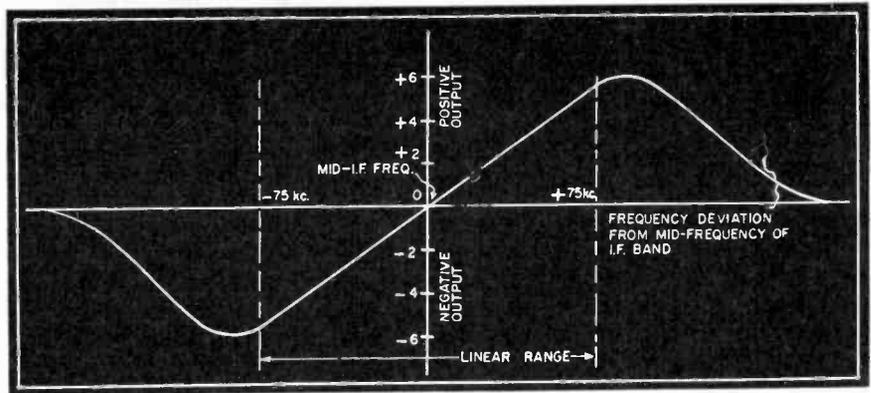

Fig. 2 Discriminator output plotted against variation of the input frequency. Zero on the graph corresponds to the intermediate frequency of the receiver.
(2) *Adjustment of the Discriminator.* With the DC (20,000-ohm-per-volt or electronic) voltmeter connected across the discriminator output, and with the 10-megacycle signal generator connected to the grid of the limiter through a .0001 ufd condenser, the discriminator can be adjusted to give the proper amplitude versus frequency characteristic. This adjustment consist of tuning the secondary of the transformer so that the discriminator gives zero output at the IF mid-frequency, and symmetrical positive and negative DC output for equal frequency deviations to either side of the mid-frequency. Of course, the signal generator must be accurately calibrated both as to frequency and amplitude, since it is always necessary to feed a constant amplitude signal to the discriminator. The actual measurement is made in DC volts of discriminator output versus frequency of the generator, where the signal is kept at a constant amplitude. The result should be similar to the curve of Fig. 2. The linear portion of the curve should extend 75 kilocycles on either side of the IF mid-frequency. A detailed description of test procedure for both discriminator and limiter will be found in a later section. At this point, only the general nature of the required tests and the necessary test equipment is being described.
One of the most useful of all devices is the frequency swept signal generator. These are made by several manufacturers and operate at a variety of frequencies. In some of these units, a motor driven condenser across the main tuning condenser rotates, thereby sweeping the frequency of a signal generator about some center frequency at a 60 cps rate. Usually, the maximum frequency deviation is adjustable, as well as the mid-frequency and the attenuator setting. Such a device is always used in conjunction with an oscilloscope and can be used to line up quickly and accurately the IF amplifier, limiter or discriminator stages. The correct tuning of the discriminator is accomplished by connecting the oscilloscope to the discriminator output, and the frequency swept oscillator to the grid of the limiter. With the mid-frequency and both extremities accurately adjusted, the discriminator output will respond at a 60 cps rate to the frequency deviations of the oscillator. The overall response is immediately presented on the oscilloscope screen and all necessary adjustments may be made as a result of visual observations. A test set-up such as this allows inter-stage tuned circuits between the limiter and discriminator to be tuned quickly without the necessity of going through a laborious point-by-point procedure. The picture presented on the oscilloscope should resemble Fig. 2.